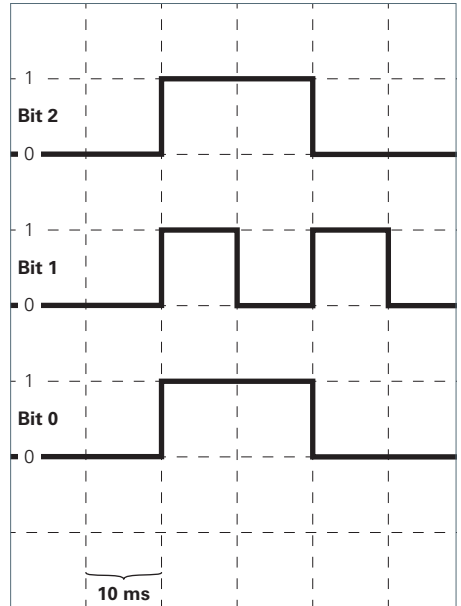

Fig. 9: Bit sequence to deactivate the operating mode "Combined operation WHITE+RGB":
- ▶ Send the bit sequence for deactivation to the connection cable with the white luminaires and the RGB luminaire, see Fig. 9.